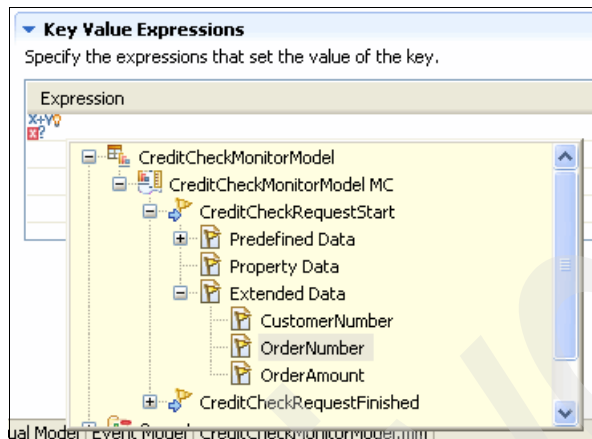

Figure 10-43 Expression builder for the key value source
- b. Click in the Expression column and press Ctrl+Spacebar to be prompted with an expression builder (Figure 10-43). Expand **CreditCheckMonitorModel** → **CreditCheckMonitorModel MC** → **CreditCheckRequestStart** → **Extended Data** and select **OrderNumber**.